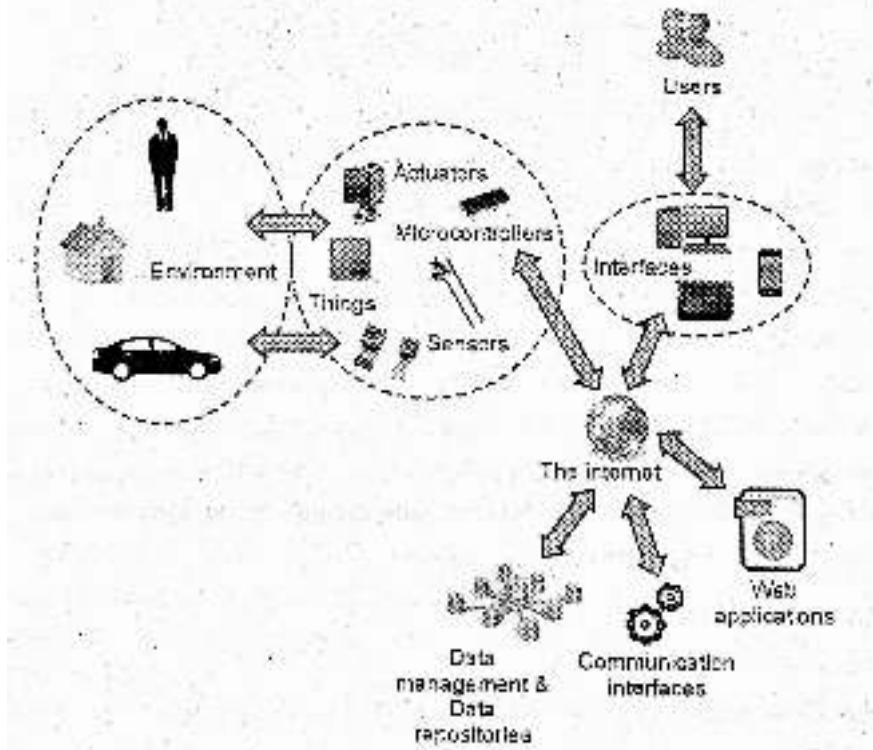

Figure 1.3 Working of IOT.
- Figure 1.3 shows working of IOT.